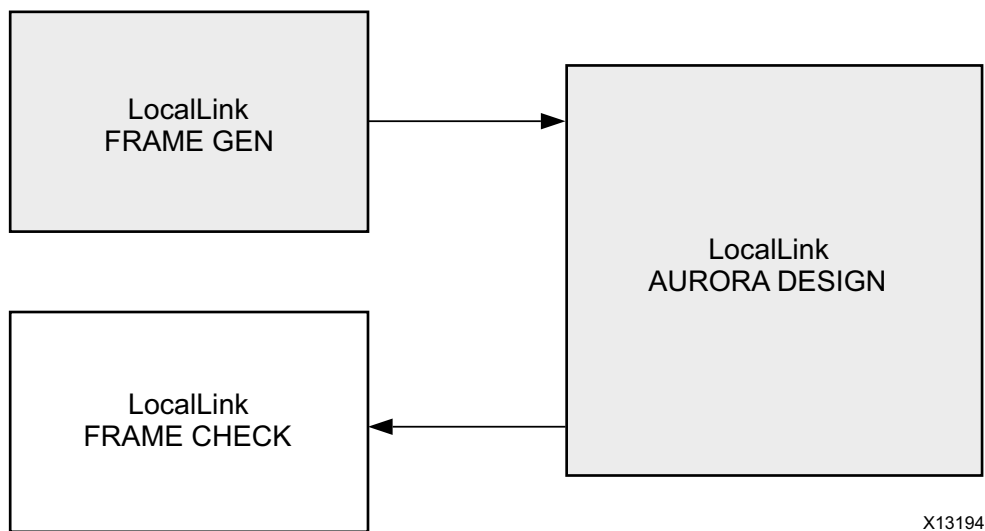
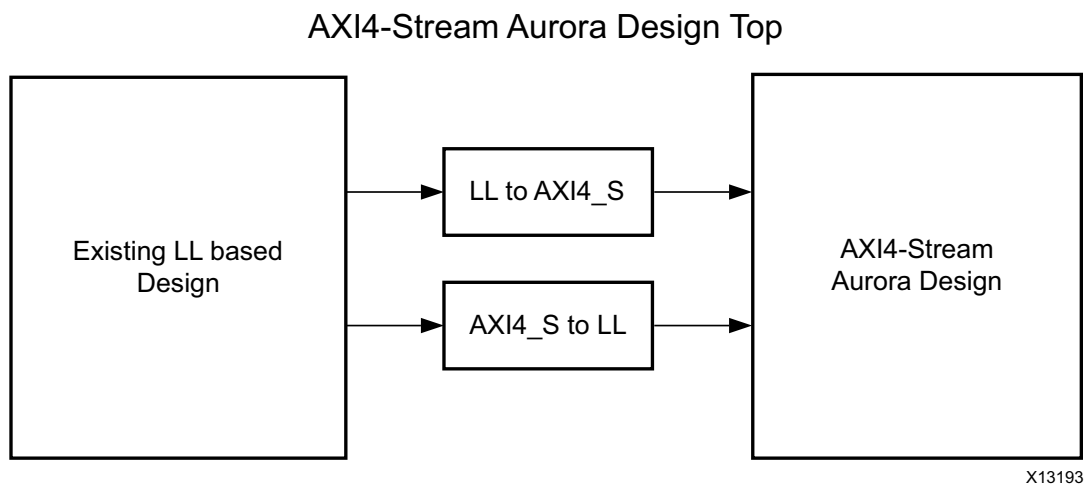

Figure B-1: **Legacy Aurora Example Design**
Figure B-2: **AXI4-Stream Aurora Example Design**
Figure B-1 shows an example Aurora design using the legacy LocalLink interface. Figure B-2 shows an example Aurora design using the AXI4-Stream interface.
2. See Figure B-2, page 93 for the emulation of an LL Aurora core from an AXI4-Stream Aurora core.
5. Connect the shim and AXI4-Stream Aurora design as shown in Figure B-2, page 93.